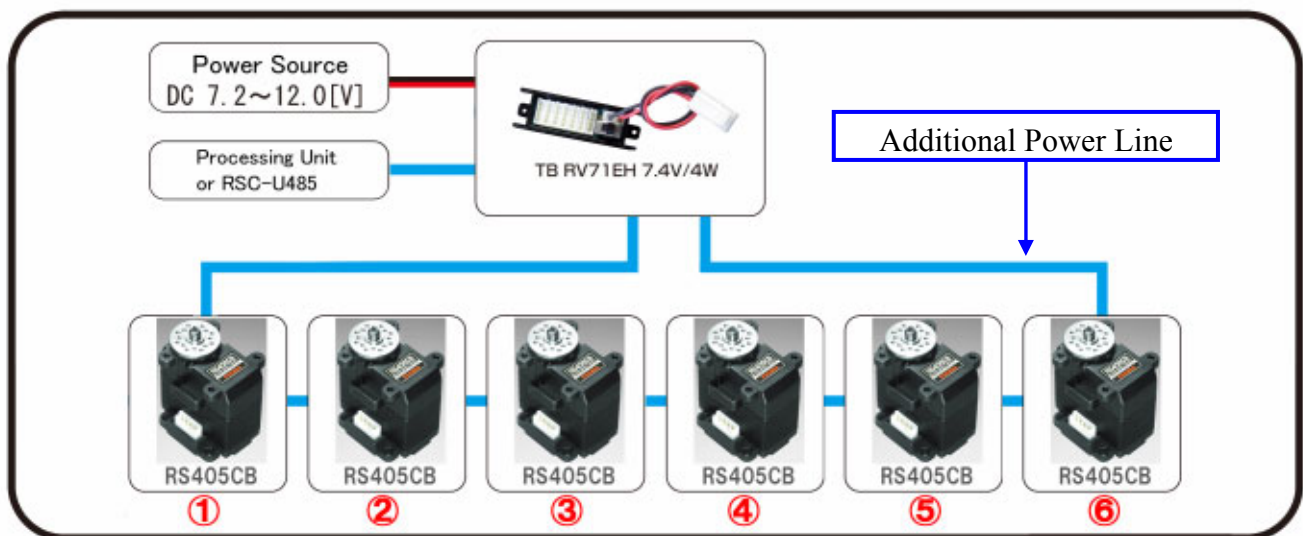

Fig. 3.3 Addition of Power Line
In Fig. 3.3, output torque of ① is the usually highest and that of ⑥ is the weakest because the output becomes weak as a far-off servo from a power supply.
Then adding the new power line like Fig. 3.3 enables the output torque more equally